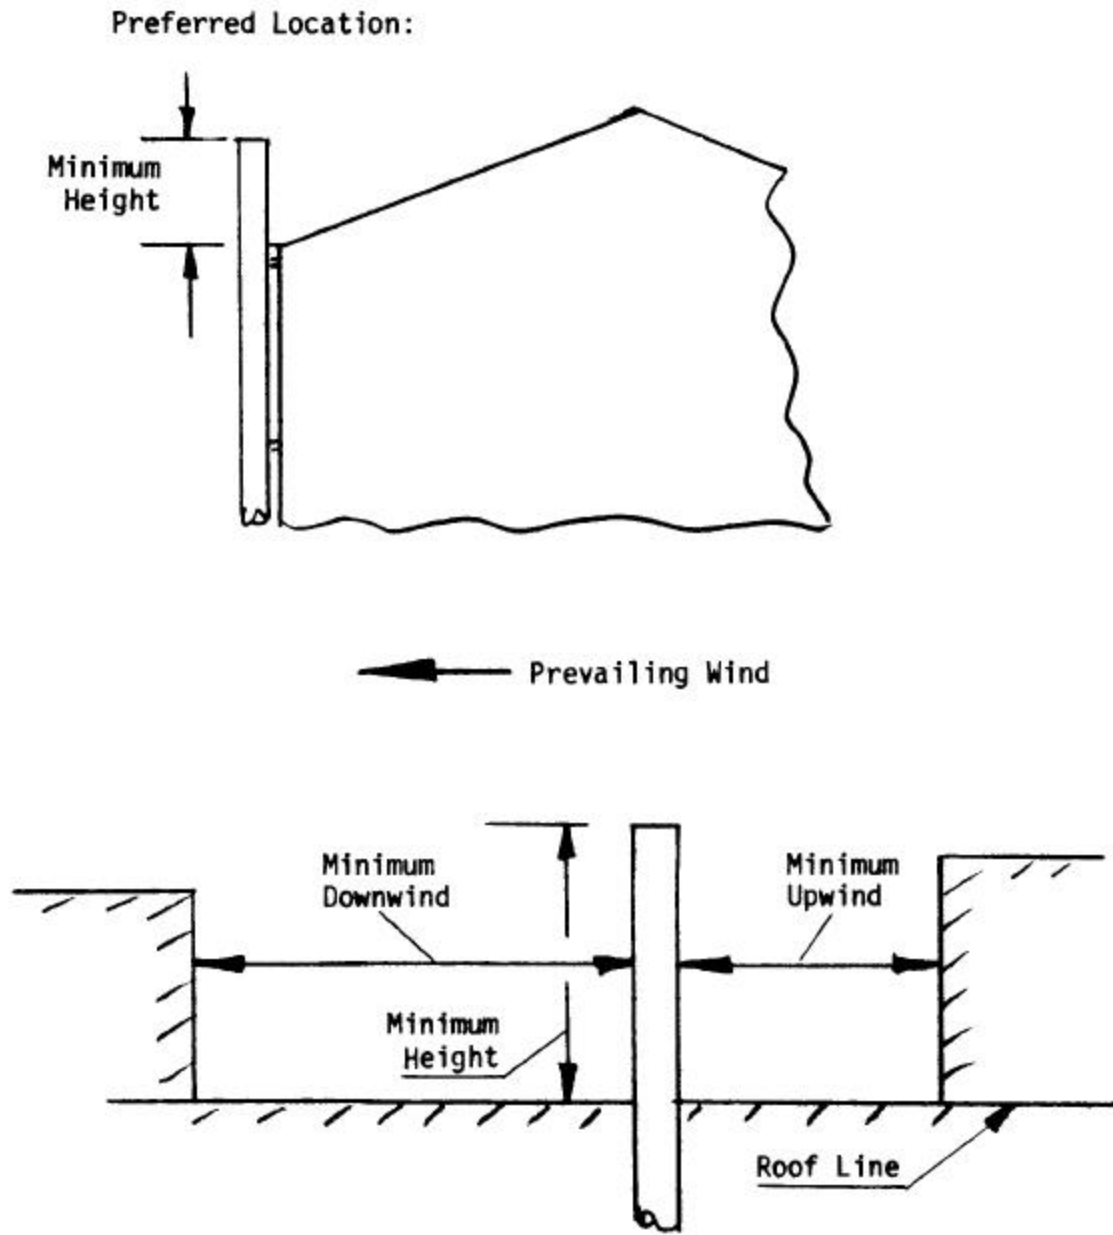

Figure 1 Vent Pipe Location
3.2.4 VENT PIPE TERMINATION - A properly installed vent separator system will be able to prevent wetting of the surroundings at the point of vent pipe termination, but attention shall still be paid to the location and geometry of the exit. It is recommended that wherever possible, the exit shall be above roof or eave level, down wind with respect to the prevailing wind, and routed such that oil vapors will not mix with the turbine inlet or exhaust gases. Suggested vertical and horizontal clearances above roof structure and from adjacent vertical surfaces shall be as follows (see Fig. 1):